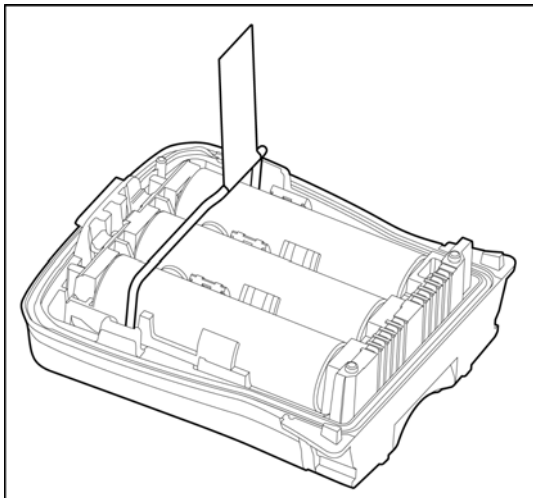
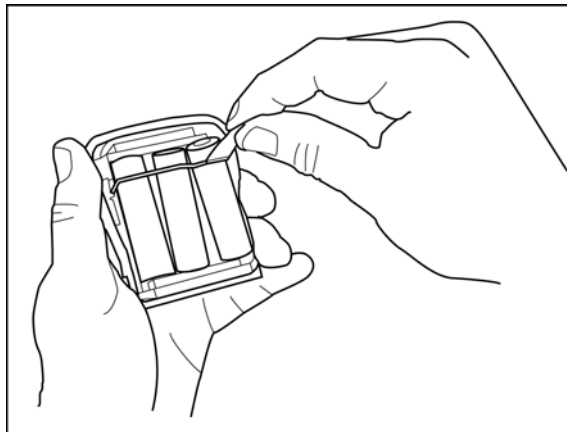
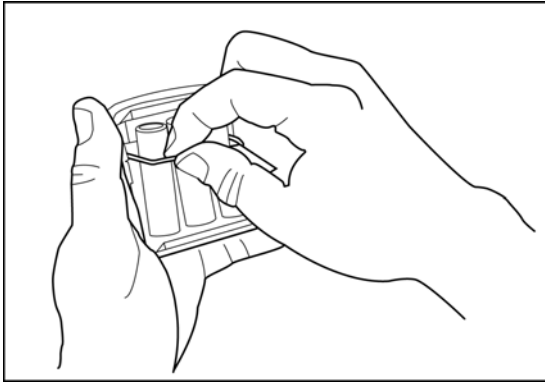
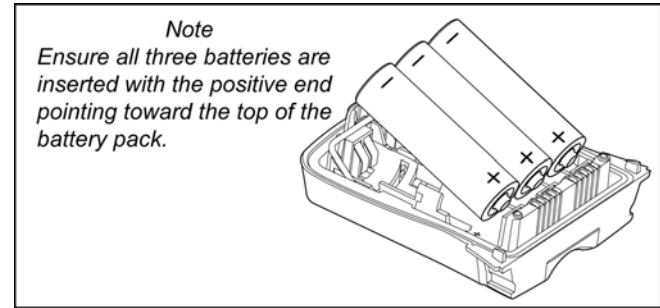

Figure 19. Ejector Bar Unhooked from Release Clasp
Figure 20. Using the Tab to Pull on the Ejector Bar
Figure 21. Pulling up on the Ejector Bar
Figure 22. Inserting the Alkaline Batteries
To replace the alkaline batteries, refer to Figure 19., Figure 20., Figure 21., and Figure 22., and steps 1-6.
9. Insert the new batteries. Position the positive end of the battery at a 30° angle and insert into the battery pack before pushing the negative end down into place. Refer to Figure 22.